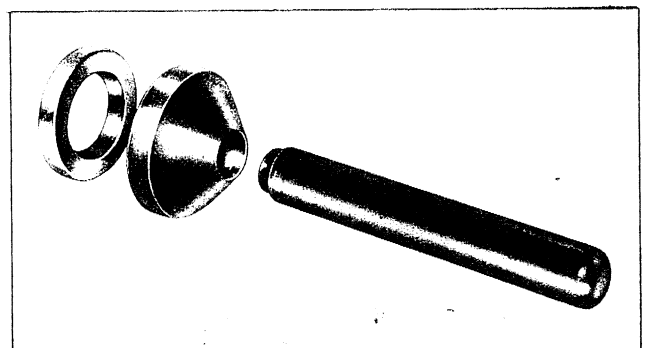

Figure 124B
6. When replacing the seal, seal tool 14027, *Figure 124B* should be used. A new seal should be installed whenever the clutch hub or related parts are replaced, whether or not an oil leak is apparent.